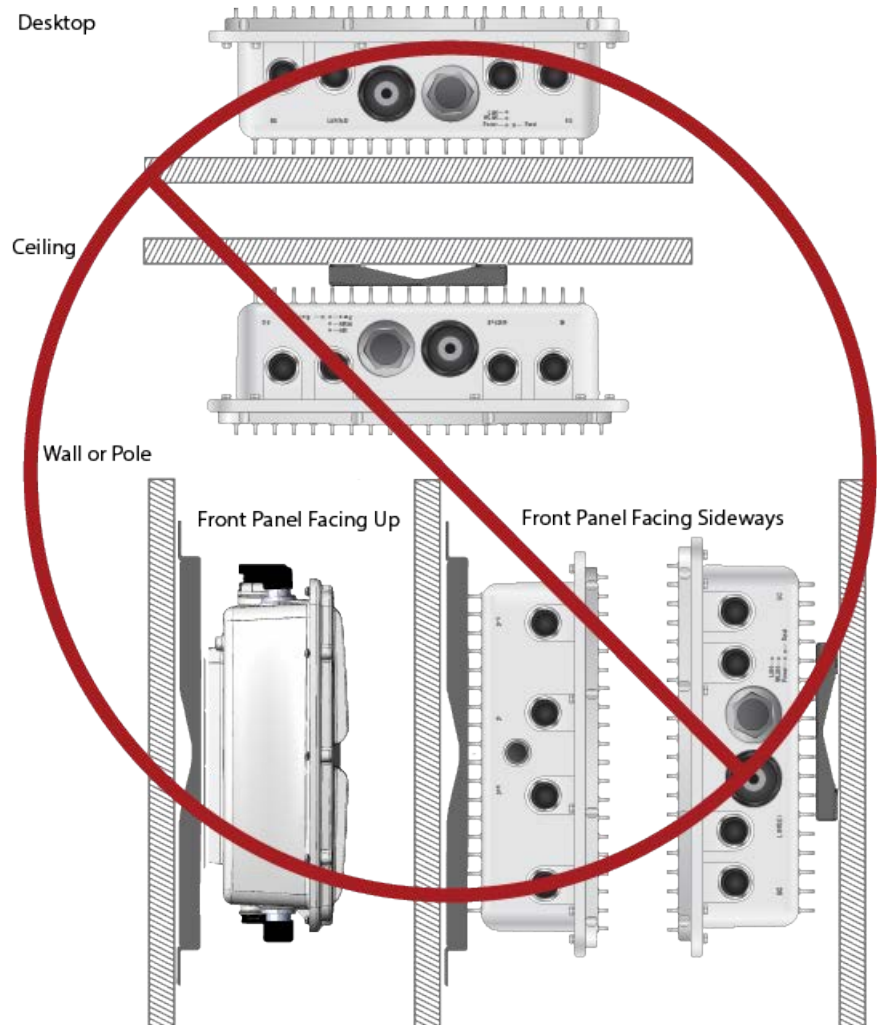

Figure 26. Invalid Orientations of the Access Point
- ❑ The access point must not be installed in the orientations shown in Figure 26.
For the orientations of the access point, see Figure 26 on page 43.